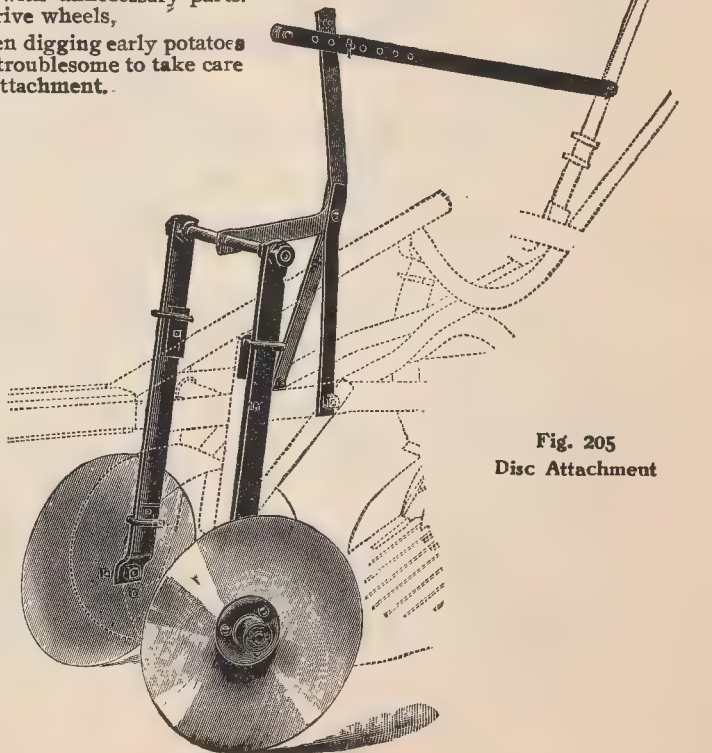

Fig. 205
Disc Attachment, as shown in Fig. 205 . . .	“ “ 70 “ . . .
**The Roller** is 14 inches in diameter, 8 inches in width and the tire is concave. As the roller passes over the vines they are crushed and easily kept in a desired shape for the most satisfactory digging. This gives us full control immediately—the vines being straightened and flattened before the hill of potatoes is lifted and carried on the cradle. Where the vines are exceedingly large or a very grassy condition prevails a pair of discs may be applied to the wheel standards as shown in Fig. 205, and satisfactory work performed.
**Disc Attachment, Fig. 205.**—When digging early potatoes and the vines are extremely large and troublesome to take care of, we recommend the use of our disc attachment.